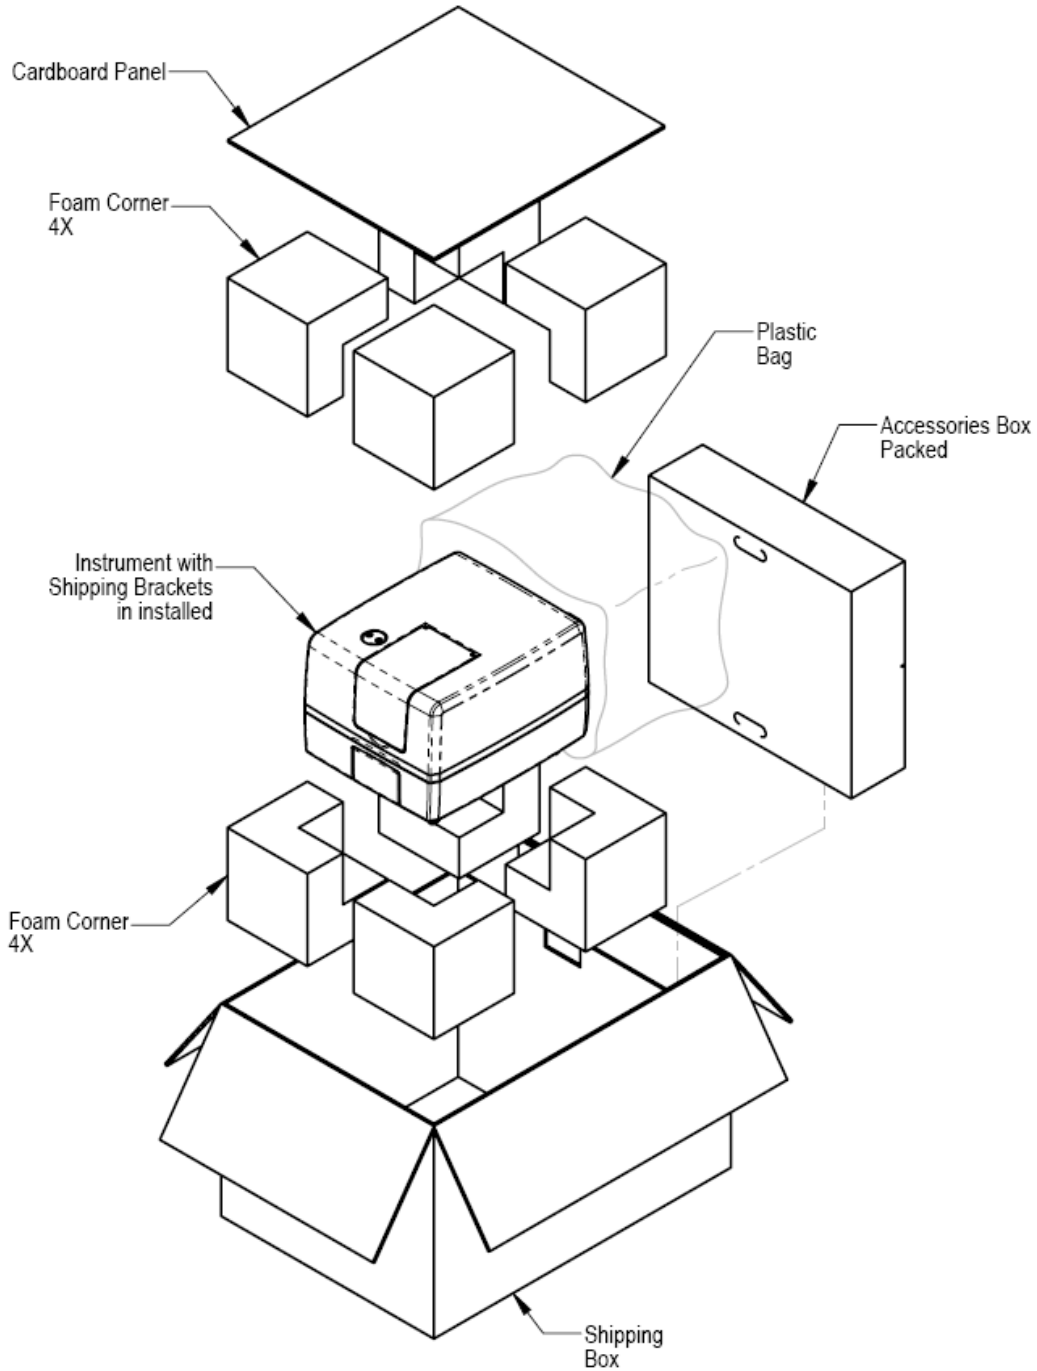

Figure 8: Repacking the instrument and accessories box
8. Place the instrument in the shipping box with foam corners, as shown in **Figure 8**.